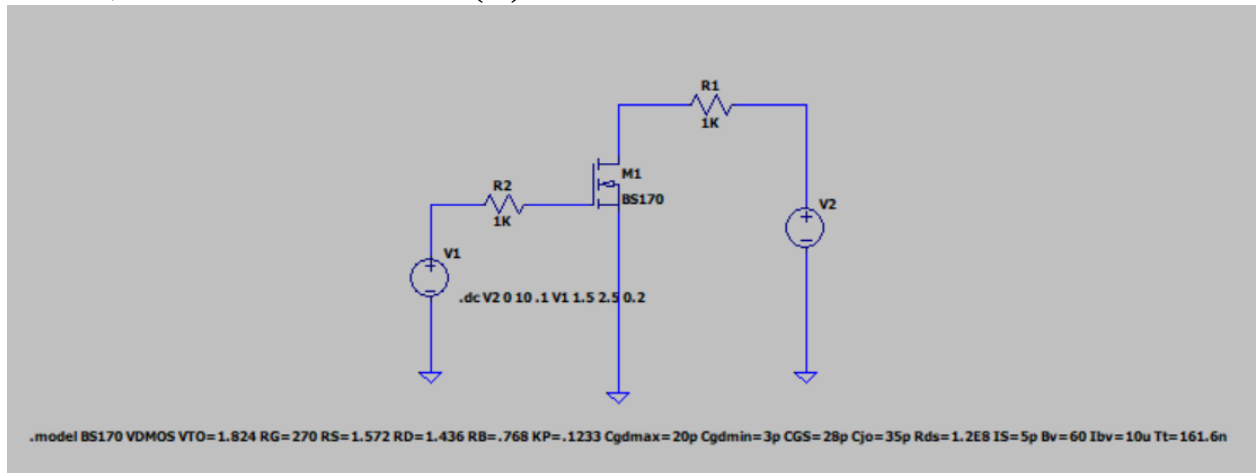

Figure 8: LTspice schematic of NMOS output characteristics circuit
1. Connect the circuit as shown in Figure 8.